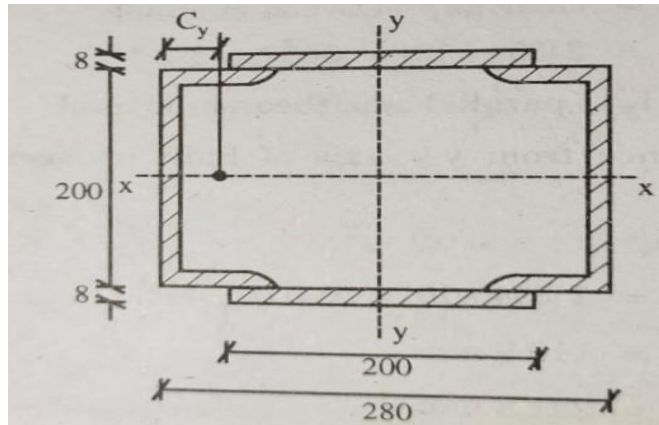

Figure 9
- b) A built up column consists of two channels with two plates each 8 mm thick connected symmetrically as shown in the figure 9. The actual length of the column is 7 m and it is fixed at one end and hinged at the other. Find the safe axial compressive load taking the factor of safety as 2. **16**